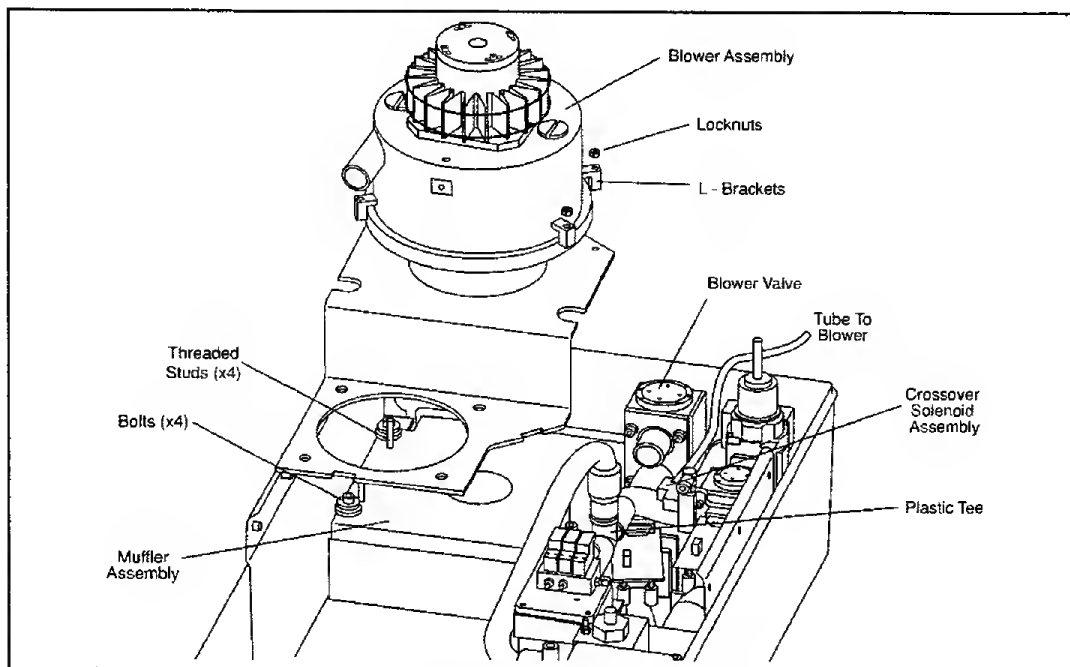

Figure 7-31: Blower Assembly
4. Disconnect the silicon tube from the Crossover Solenoid Assembly (see Figure 7-31).
13. Remove four lock nuts and L-brackets holding the Blower, then remove the Blower (see Figure 7-31).
2. Place the Blower Assembly on the gasket. The blower outlet should be parallel to the enclosure wall. Fasten with four lock nuts and L-brackets (see Figure 7-31). **Note: The L-brackets should be perpendicular to the Blower after torquing. Torque until firm. Do not over-tighten.**
10. Connect the silicon tube from the Blower to the Crossover Solenoid Assembly (see Figure 7-31).
(Refer to Figure 7-31 unless specified otherwise)
8. Connect the silicon tube from the Blower to the Crossover Solenoid Assembly (see Figure 7-31).